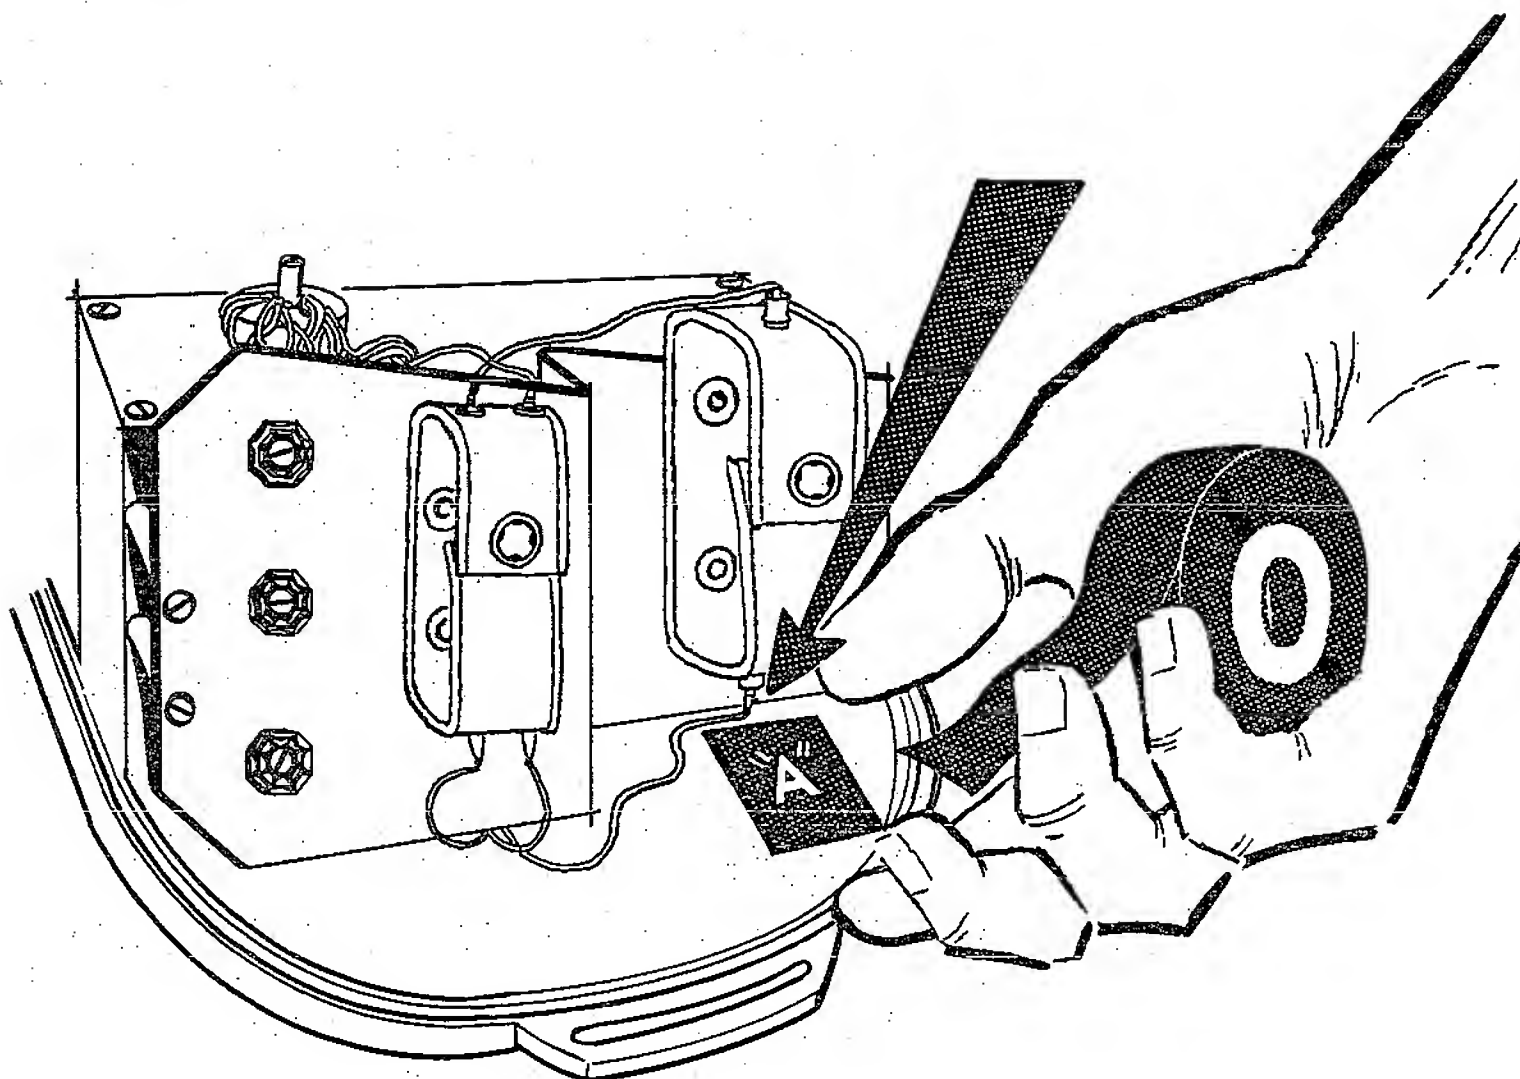

Figure 1.—Modification of the Chatham Electronics CD V-720
b. Before installing batteries, make certain that the modification shown in figure 1 on facing page has been accomplished. To install batteries, close the 22-1/2-volt battery strap by means of the snap fastener. This strap is the smaller one of the two and has two sets of contact pins. Insert the positive (+) end of the 22-1/2-volt battery on the inside bottom pin, making sure that the pin on the battery contact terminal fits into the hole in the contact plate on the battery. The positive (+) terminals of all batteries should be toward the "+ Pos." marking on the battery mounting bracket. Press the negative side of the battery into the strap until the contact pin slides into the hole on the negative contact plate of the battery. Install the second 22-1/2-volt battery in the outside terminals of the strap, repeating the procedure explained for inserting the first 22-1/2-volt battery. Next, close the 1-1/2-volt "D" cell battery strap (larger strap) by means of the snap fastener. Insert the center (+) terminal of the 1-1/2-volt "D" cell into the positive contact of the strap. Press the negative end of the battery into the strap until